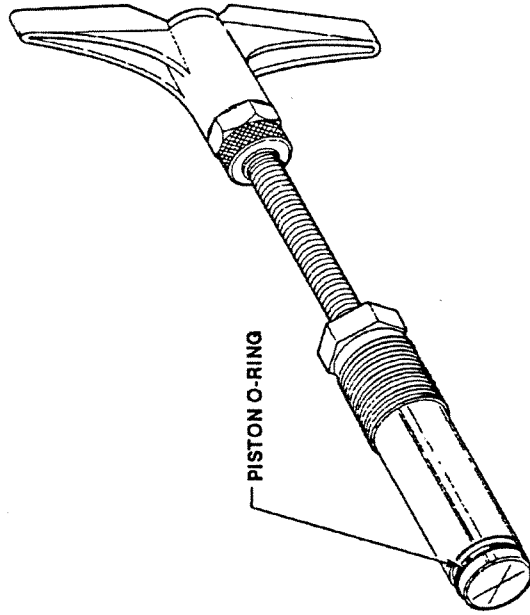

FIGURE 4-2 REPLACING THE PISTON O-RING
5. Remove the O-ring from the end of the piston and replace it with a new O-ring (Figure 4-2). Lightly lubricate the O-ring with vacuum grease.